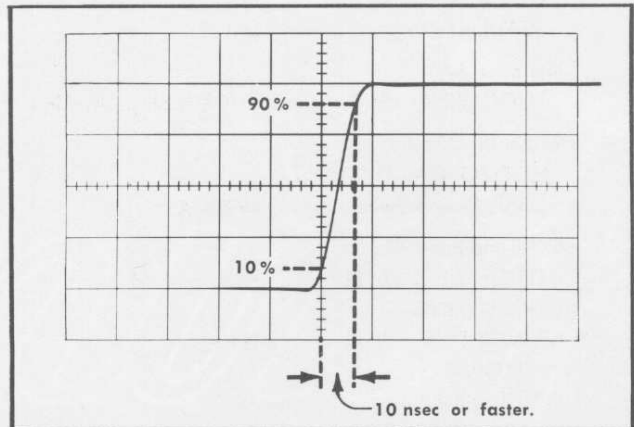

Fig. 5-15. Measuring the risetime of a normal waveform when SW1000 is actuated; sweep rate is 10 nsec/cm.
- b. Depress the Transient Response Compensation SW-1000 (see Fig. 5-14a). Check the risetime of the step waveform (see Fig. 5-15). Overall risetime should not be any slower than 10 nsec.